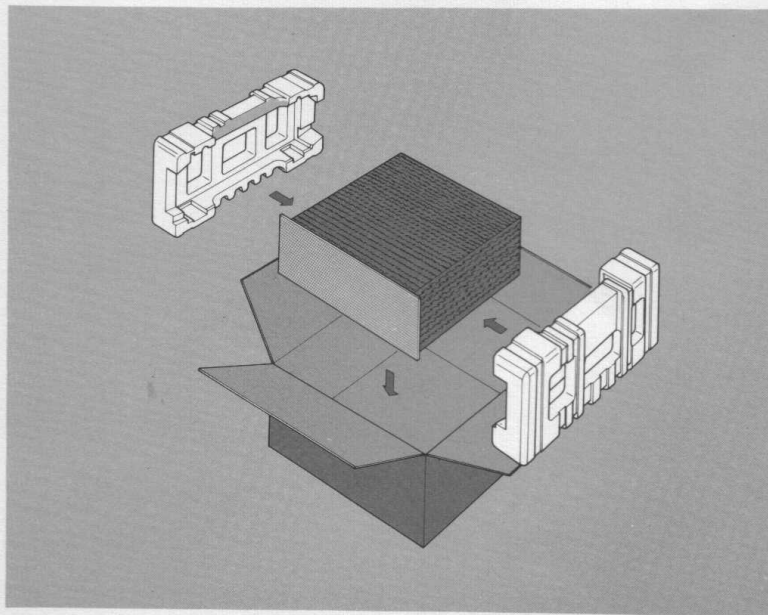

Figure 9 Packing Instructions
- b. Pack the unit carefully, using the original material as shown in Figure 9.